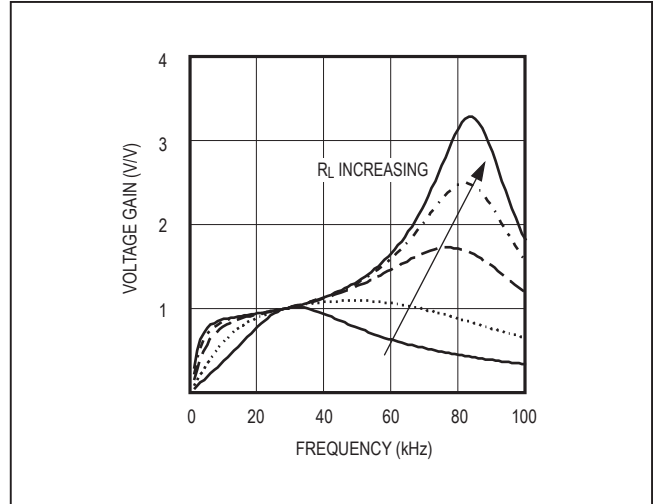

Figure 8. Frequency Response of the Resonant Tank
Figure 8 shows the frequency response of the resonant tank's voltage gain under different load conditions. The primary series capacitor is $1\mu F$, the secondary parallel capacitor is $15pF$, the transformer turns ratio is 1:93, and the secondary leakage inductance is $260mH$. Notice that there are two peaks, f_S and f_P , in the frequency response. The first peak, f_S , is the series resonant peak determined by the secondary leakage inductance (L) and the series capacitor reflected to the secondary (C_S'):